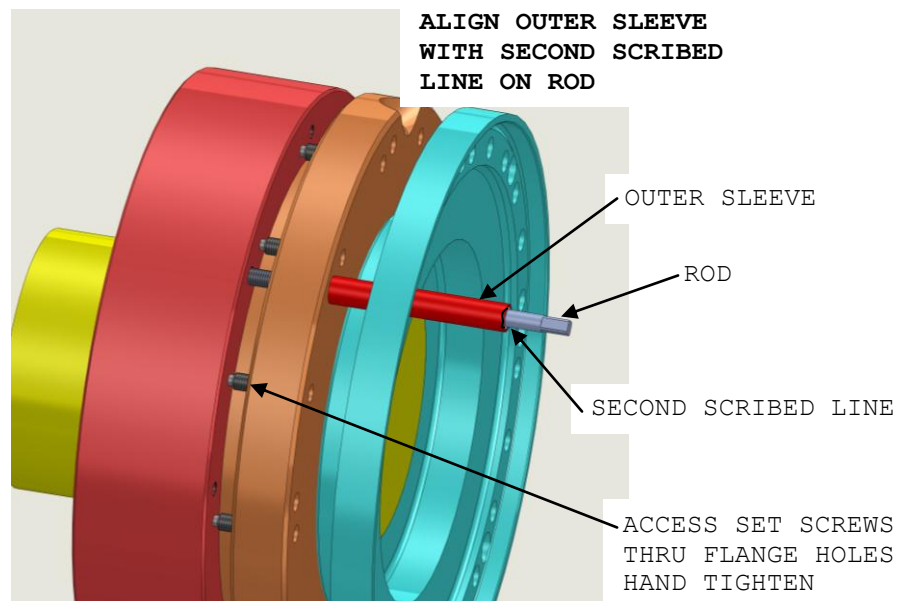

Figure 5b - Setting Final Position
2.4.12 Apply more hydraulic pressure. The HTC halves will separate causing the outer sleeve of the tool to move towards the second scribe line on the rod. When the outer sleeve is aligned with the second scribe line as shown in figure 5b, stop the hydraulic pump while holding pressure. This is the final position of the clamp. Hold hydraulic pressure here for the next step.
2.4.13 Tighten the twelve retention screws (socket head set screws) hand tight with a hex wrench. The screws are accessed through the flange face as shown in Figure 5b.
5.4 Connect the hydraulic pump and slowly apply pressure while attempting to loosen one of the retention set screws. The retention set screws are accessed thru the face of the flange as shown in Figure 5b. As soon as the screw is free to rotate stop the pump.